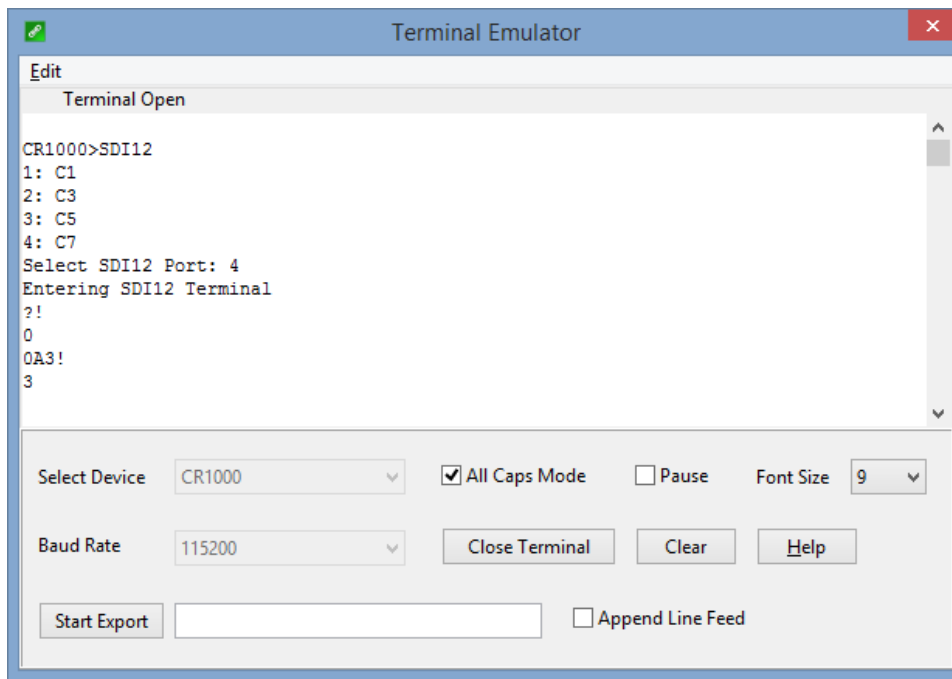

FIGURE C-1. CR1000 example of using the SDI-12 transparent mode to change the SDI-12 address from 0 to 3. Sensor is connected to control port 1.
10. To change the SDI-12 address, type **aAb!**, where **a** is the current address from the above step and **b** is the new address (see FIGURE C-1 (p. 29)). Press Enter. The sensor changes its address and responds with the new address.